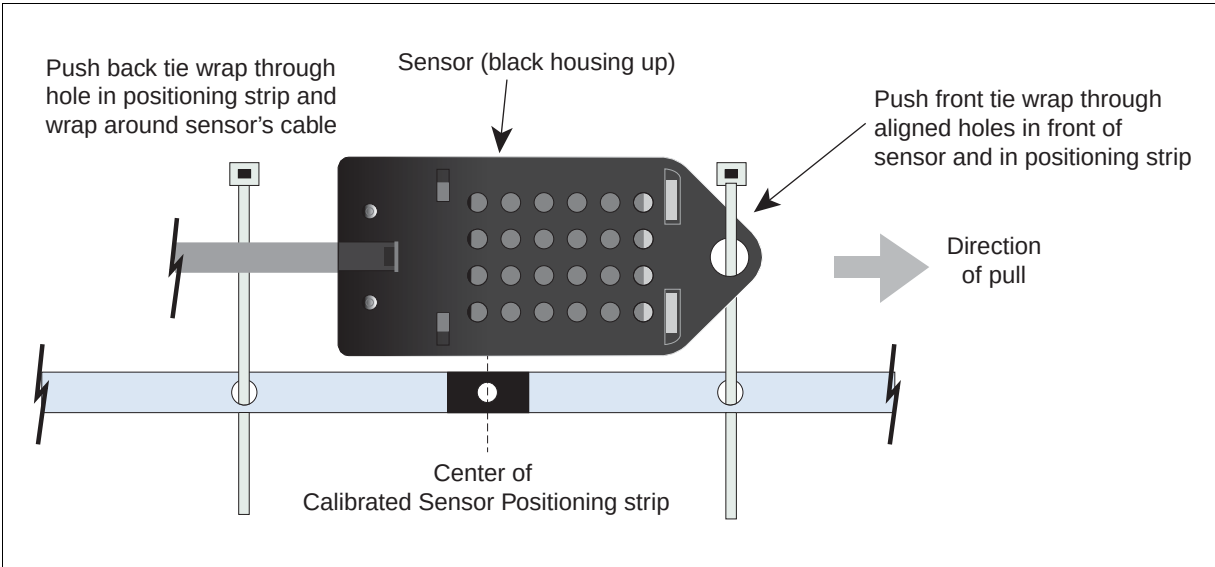
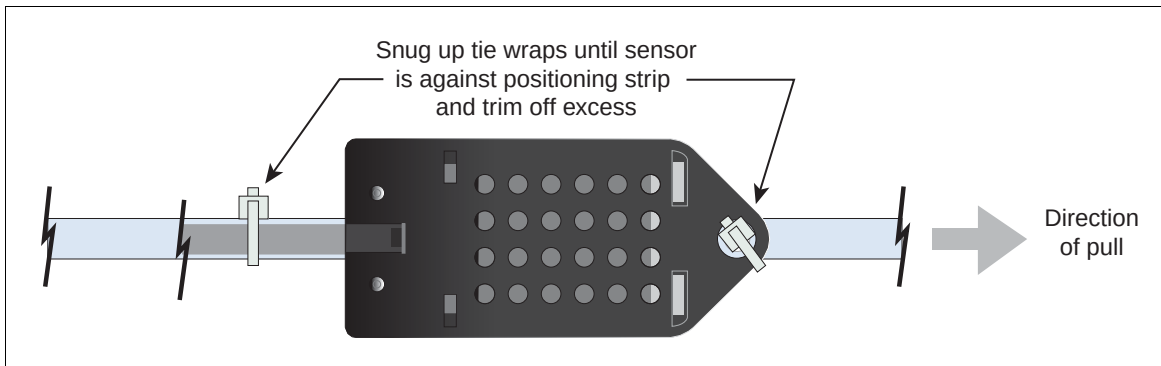

Figure 2.
Figure 3.
2. Place the Interstitial sensor along the top of the support strip so that the sensor body is over the painted area and the hole in the front of the sensor aligns with the 5/16" hole to the right of the center hole (see Figure 2). The black housing of the sensor must be facing up and the flat white perforated side of the sensor against the strip.
3. Thread one of the tie wraps from the kit through the aligned holes of the Sensor and the Calibrated Support Strip. Snug up the tie wrap until the sensor is flat against the Calibrated Support Strip (see Figure 2). Thread another tie wrap from the kit through the 5/16" hole to the left of the calibrated support strip's center hole and around the sensor's cable. Pull the tie wrap ends until the sensor is snug against the calibrated support strip (see Figure 3). Trim off excess ends from tie wraps.